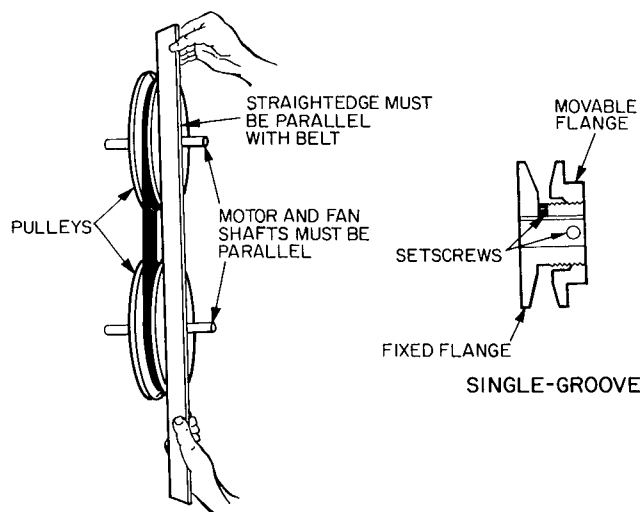

Fig. 23 — Evaporator-Fan Pulley Adjustment
- Loosen movable pulley flange setscrew (see Fig. 23).